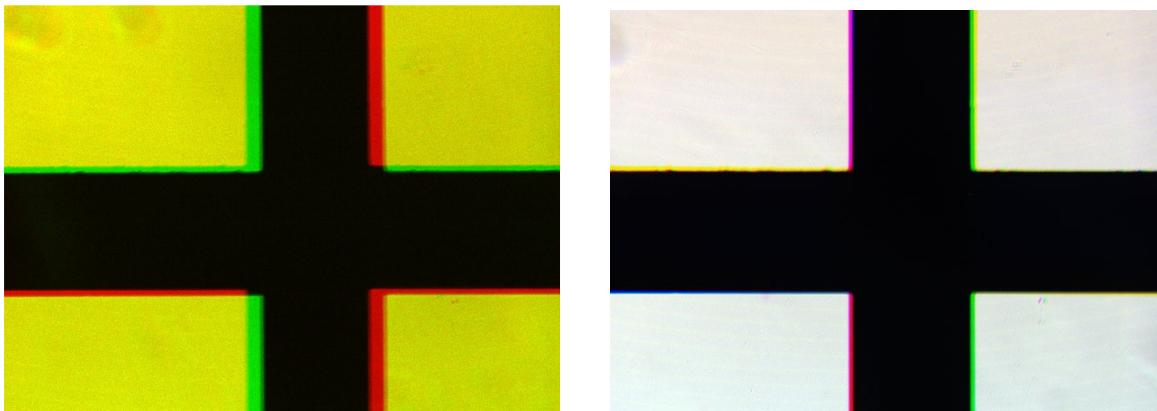

Figure 8: l: side: not optimal x,y-adjustment of camera 1 and 2; r: side: satisfactory adjustment of all 3 cameras
- [f] select the 562/40 filter for camera 1, the 585/40 filter for camera 2, the 568 or 580 detection dichro and the (405)/488/635(640) primary dichro
- evaluate the picture: the pictures should match each other quite good. A mismatch of a few pixels is allowed. The mismatch could be seen at the edges of the cross (see *Figure 8*).